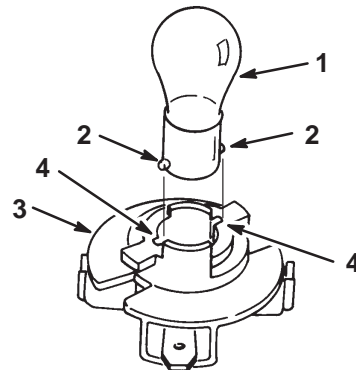

Figure 33
4. Push and rotate the bulb counterclockwise until it stops (approx. 1/4 turn) and remove the bulb from the bulb holder (Fig. 33).
1. The bulb has metal pins on the side of its base. Align the pins with the slots in the bulb holder and insert the base into the holder (Fig. 33). Push and rotate the bulb clockwise until it stops.